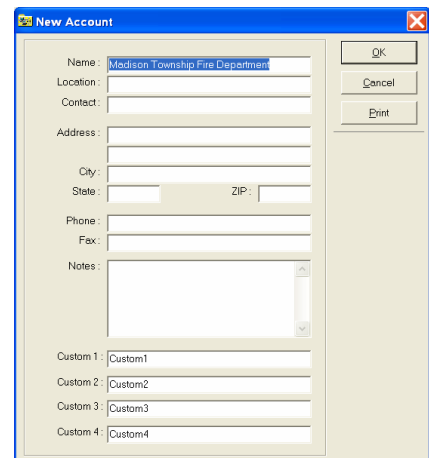

Fig. 1 – New Account Screen
5. Assign company information and press <OK> (Fig. 1)